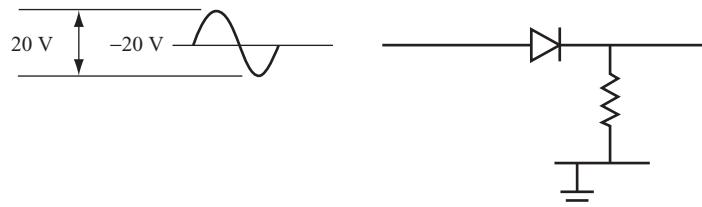

FIGURE 11.10
- 7** Figure 11.10 shows a circuit with a 20 V_{pp} AC input signal centered at -20 V DC.